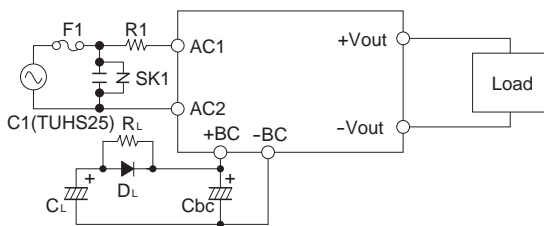

Fig.5.5 Long hold-up time connection
- It is possible that setting the hold-up time of the power supply for a long time by connecting like Fig.5.5. Please set the charge current of the CL to become less than 1A. Please use the diode which reverse voltage is 600V or more. Please contact us for detail.